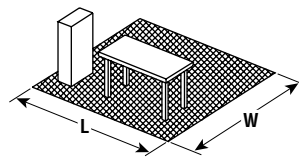

Figure 1 — Design Area
- Determine** the area to be heated in ft². This is termed the "design or work area" (A_D) (Fig. 1).